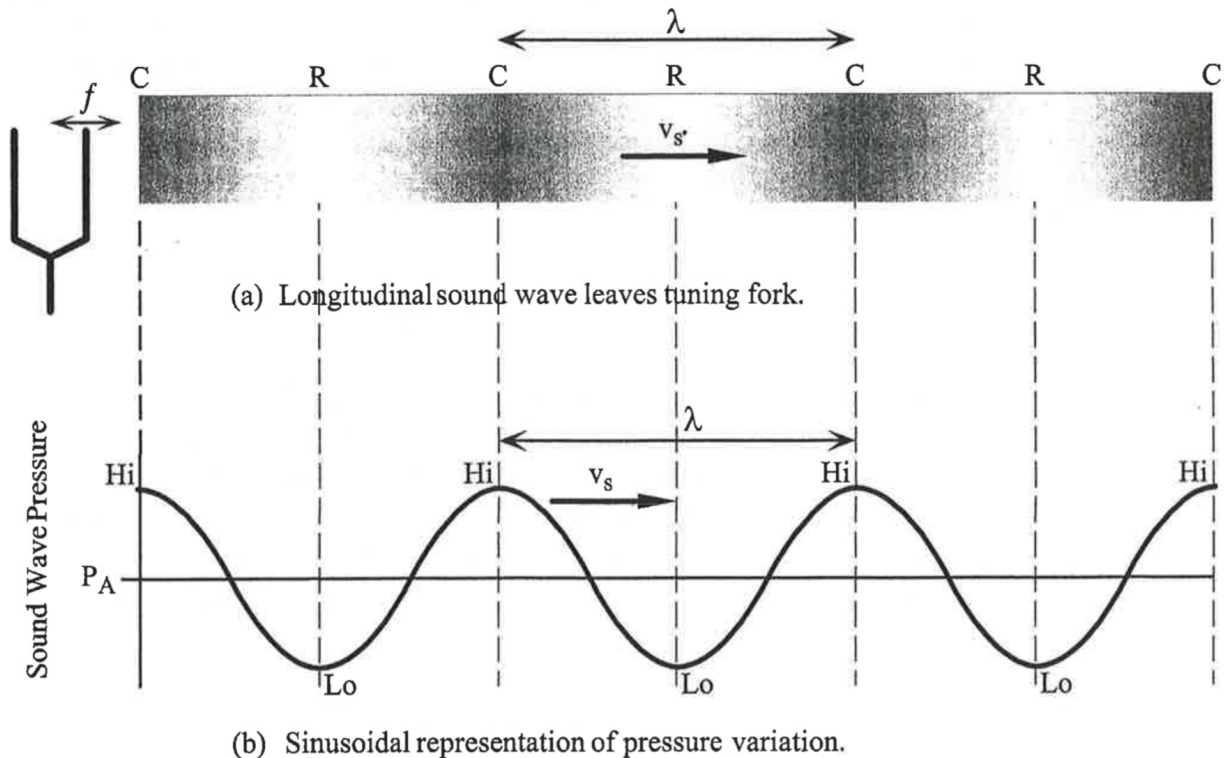

Figure 1: Longitudinal sound waves from a tuning fork.
When a source of sound (such as a tuning fork) vibrates, it alternately compresses and rarifies the air in the immediate vicinity of the vibrating surfaces. These compressions (C) and rarefactions (R) constitute a longitudinal wave we call *sound*. The sound waves move away from the source at a speed V_s that is characteristic of the medium in which the source is located, as shown in Figure 1. (**NOTE: For Simplicity, only the wave from the right side of the tuning fork is shown.**)